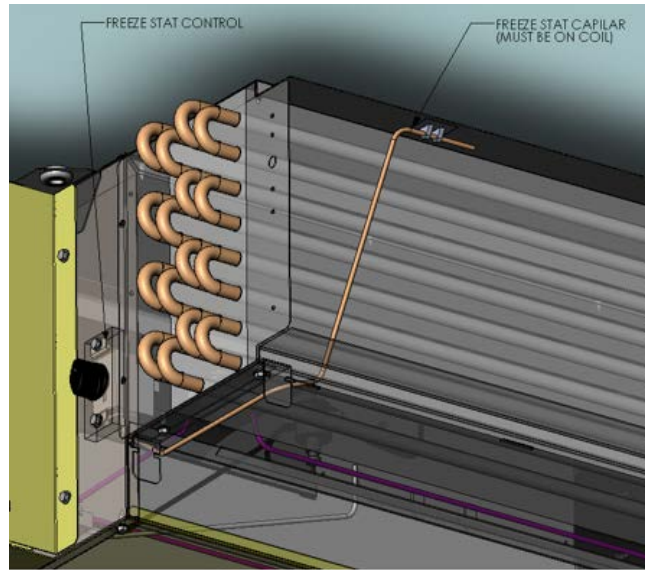

Figure 14
- e. Position the sensing element horizontally across the face of the coil, and secure the sensing element with mount tape and wire tie. (See Figure 14.)